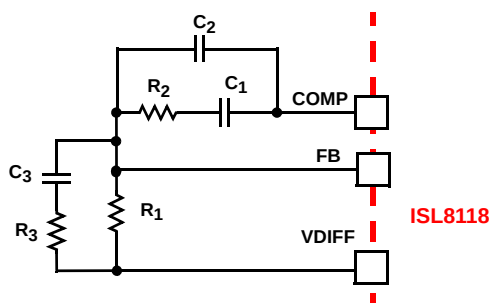
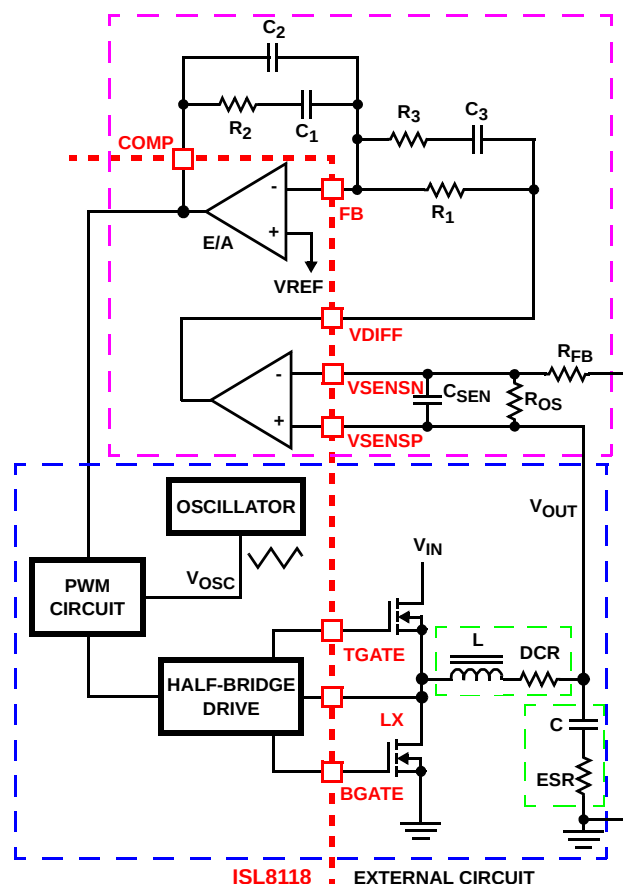

FIGURE 9. COMPENSATION CONFIGURATION FOR ISL8118 WHEN USING DIFFERENTIAL REMOTE SENSE
FIGURE 10. VOLTAGE-MODE BUCK CONVERTER COMPENSATION DESIGN
The ISL8118 single-phase converter is a voltage-mode controller. This section highlights the design considerations for a voltage-mode controller requiring external compensation. To address a broad range of applications, a type-3 feedback network is recommended (see Figure 9).
Figure 10 highlights the voltage-mode control loop for a synchronous-rectified buck converter, when using an internal differential remote sense amplifier. The output voltage (V_{OUT}) is regulated to the reference voltage, VREF, level. The error amplifier output (COMP pin voltage) is compared with the oscillator (OSC) triangle wave to provide a pulse-width modulated wave with an amplitude of V_{IN} at the LX node. The PWM wave is smoothed by the output filter (L and C). The output filter capacitor bank's equivalent series resistance is represented by the series resistor ESR.
The compensation network consists of the error amplifier (internal to the ISL8118) and the external R₁-R₃, C₁-C₃ components. The goal of the compensation network is to provide a closed loop transfer function with high 0dB crossing frequency (F₀; typically 0.1 to 0.3 of F_{SW}) and adequate phase margin (better than 45°). Phase margin is the difference between the closed loop phase at F_{0dB} and 180°. The equations that follow relate the compensation network's poles, zeros and gain to the components (R₁, R₂, R₃, C₁, C₂, and C₃) in Figures 9 and 10. Use the following guidelines for locating the poles and zeros of the compensation network:
1. Select a value for R₁ (1kΩ to 10kΩ, typically). Calculate value for R₂ for desired converter bandwidth (F₀). If setting the output voltage to be equal to the reference set voltage as shown in Figure 9, the design procedure can be followed as presented. However, when setting the output voltage via a resistor divider placed at the input of the differential amplifier (as shown in Figure 10), in order to compensate for the attenuation introduced by the resistor divider, the below obtained R₂ value needs be multiplied by a factor of (R_{OS} + R_{FB})/R_{OS}. The remainder of the calculations remain unchanged, as long as the compensated R₂ value is used.
A small capacitor, C_{SEN} in Figure 10, can be added to filter out noise, typically C_{SEN} is chosen so the corresponding time constant does not reduce the overall phase margin of the design, typically this is 2x to 10x switching frequency of the regulator. As the ISL8118 supports 100% duty cycle, d_{MAX} equals 1. The ISL8118 also uses feed-forward compensation, as such V_{OSC} is equal to 0.16 multiplied by the voltage at the VFF pin. When tying VFF to V_{IN} , Equation 9 simplifies to: